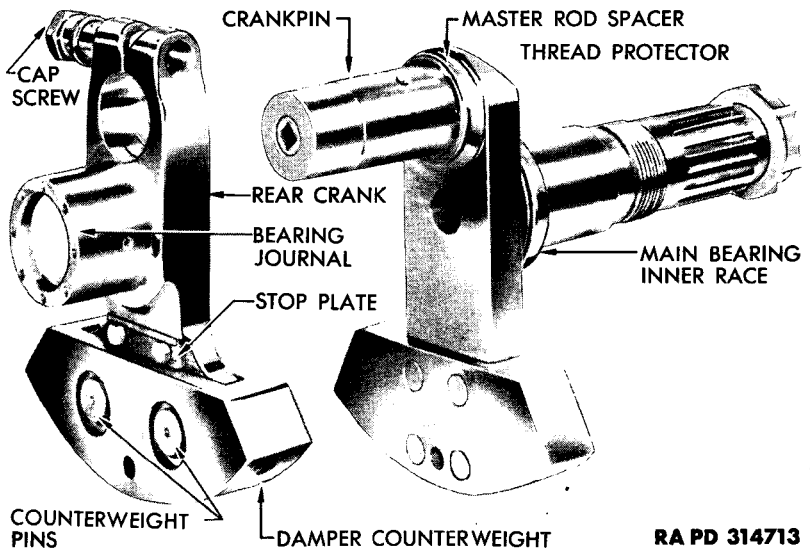

Figure 8 – Crankshaft Sections
(1) **GENERAL.** The crankshaft is a two-piece, single-throw, counterbalanced assembly, machined from nickel-steel forgings. The crankshaft consists of a front and a rear section. Each crankshaft section has a crankcheek and counterweight. The rear section counterweight is the dynamic damper designed to minimize crankshaft vibration (fig. 8). The crankcheek and counterweight in both sections have an alining hole. An alining bar is installed through these holes when crankshaft sections are being assembled to insure proper alinement (fig. 134).
(3) **REAR CRANKSHAFT SECTION.** The rear crankshaft section consists of the rear crankcheek with the dynamic damper counterweight, and the rear main bearing journal (fig. 8). The rear crankcheek is bored to receive the crankpin. It is also bored and tapped to receive the clamping cap screw, and is slotted at the top crankpin end to permit the clamping action of the cap screw. The crankshaft rear main bearing journal is hollow and is fitted with a screwed-in plug at the front, and a pressed-in plug at the rear. The crankshaft gear is secured to the end of the rear main bearing journal by cap screws.